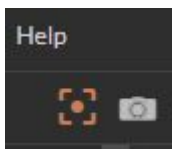

Fig.23
2. Select the laser focus icon.(See Fig.23)